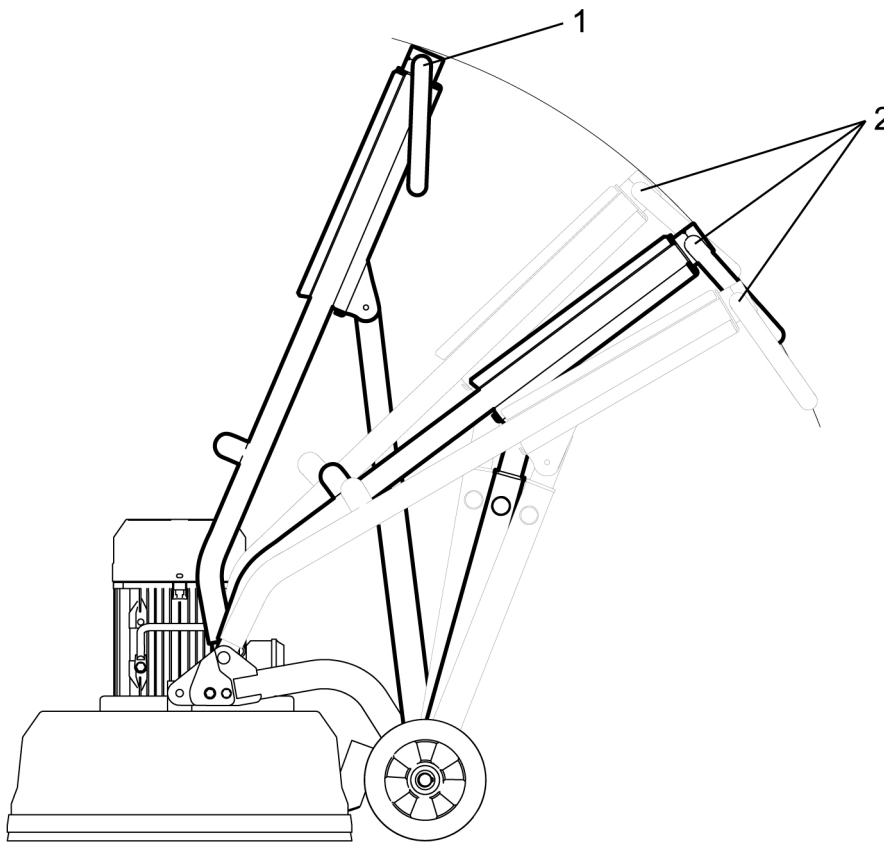

Figure 4-1. Handle settings
1. Set the handle to the upright position - see *Figure 4-1, page 14*